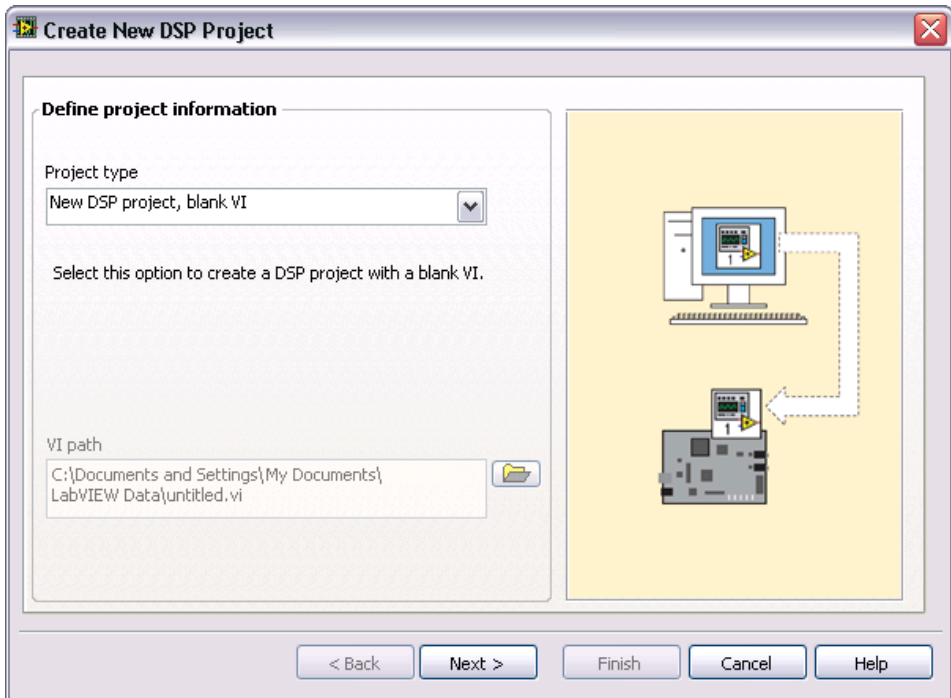

Figure 7. Creating a New Project with a New VI
3. Select the **New DSP project, blank VI** from the **Project type** pull-down menu on the **Define project information** page, shown in Figure 7, to create a new project with an empty VI.